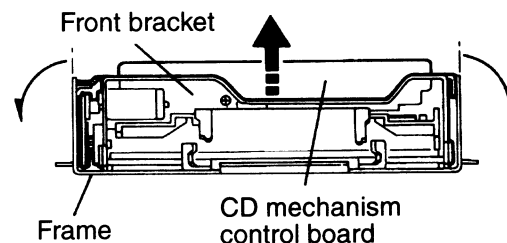
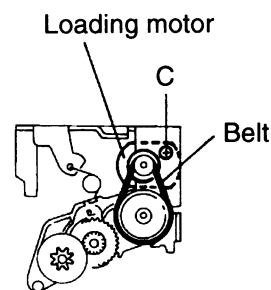

Fig. 13
Fig. 14
CAUTION: Remove the front bracket from the frame while expanding both sides of the frame as shown in Fig. 13
1. Remove the belt from the loading motor (See Fig. 13 and Fig. 14)
2. Remove the one screw C retaining the loading motor (See Fig. 14)